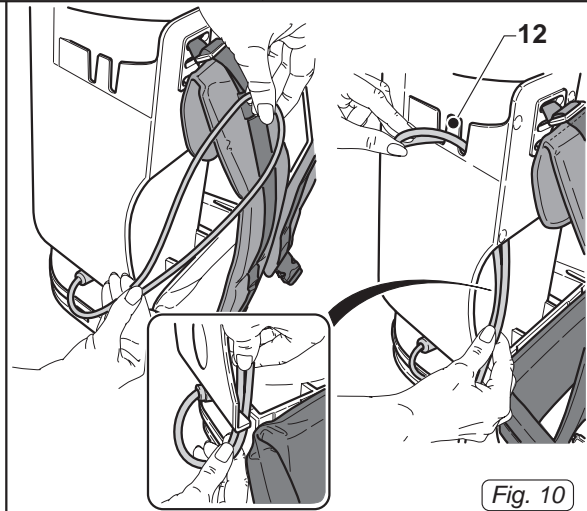

Fig. 10
- Form a ring of the electric cable and fix it on the tooth (12 Fig.10), positioned as shown in Figure 10.